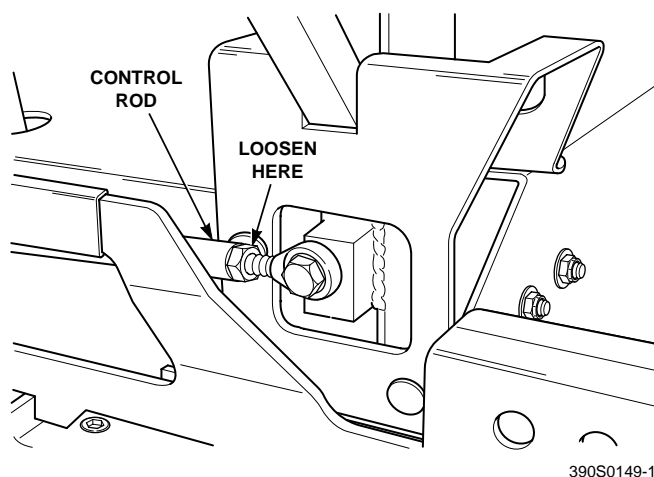

Figure 6-3 RH Steering Control Rod Adjustment
4. Adjust the RH wheel by loosening the jam nuts on the steering control rod and turning the rod until the drive wheel turns in the forward direction. Turn the rod back until the drive wheel stops moving. Turn the rod an additional 1/2 turn. (See Figure 6-3).
- A. Stop the machine and place the steering control levers in the neutral position. Loosen the lock nuts securing the ball joints at each end of the RH steering control rod. Rotate the control rod to lengthen the rod and tighten the lock nuts. This will cause the control rod to stroke the RH pump less, slowing down the RH wheel. (See Figure 6-3, page 25)